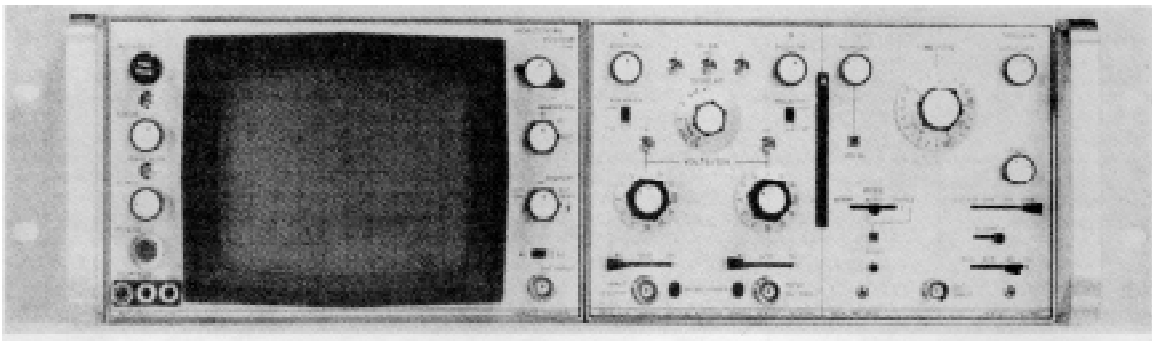

Figure 3-8. Oscilloscope AN/USM-318(V) controls and indicators.
b. AN/USM418(V)1 (fig. 3-8) controls and functions are as follows: